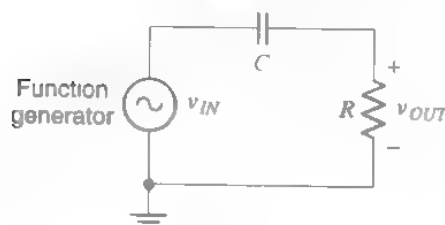

Fig. 5
Consider now the circuit of Fig. 5. Here the output is taken *across the resistor*. As before, at very low frequencies the capacitor will "act almost as an open circuit," which will virtually disconnect the output from the input. The output voltage can thus be expected to be very small at very low frequencies. At high frequencies, on the other hand, the capacitor will act almost as a short circuit, i.e. almost as if it were replaced by a direct connection from input to output, in which case the output voltage would be equal to the input voltage. Thus, for the circuit of Fig. 5, high-frequency input signals pass to the output, whereas low-frequency signals are rejected; for this reason, this circuit is said to be a *high-pass filter*. The voltage gain magnitude G can be defined again as above. When the frequency of the input is equal to f_c , where $f_c = 1/(2\pi RC)$, G takes the value of $1/(\sqrt{2}) \approx 0.707$, just as in the case of the low-pass filter. The quantity f_c is again called the cutoff frequency of the filter. At this frequency, the output leads the input by $+45$ degrees.
9. Now build the high pass filter of Fig. 5. Use $R = 16 \text{ k}\Omega$ and $C = 10 \text{ nF}$ as before. Vary the frequency of the input signal over a wide range. Observe qualitatively the amplitude of the output. Is your observation what you expected, and does it justify the name "high-pass filter"?